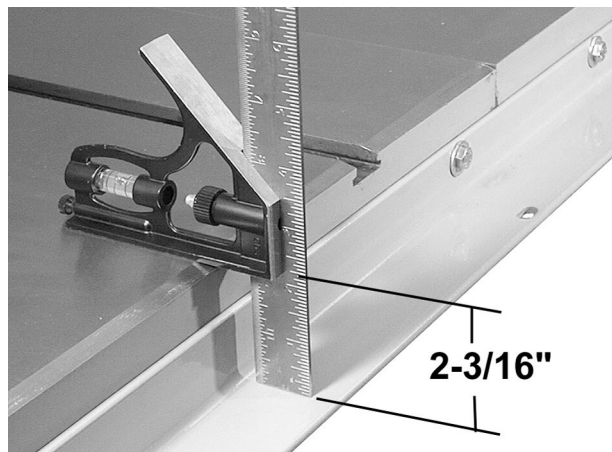

Figure 3
5. Place an adjustable square on the table as shown in Figure 3.